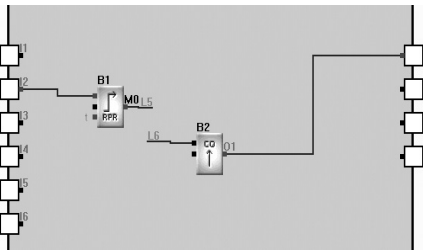

Fig 4.13
b. With auto-link or manual link, you can operate as follows: first move the mouse to the link start port, and its shape is “+”, click and move the mouse into your desired place and click, as shown in Fig. 4.13.